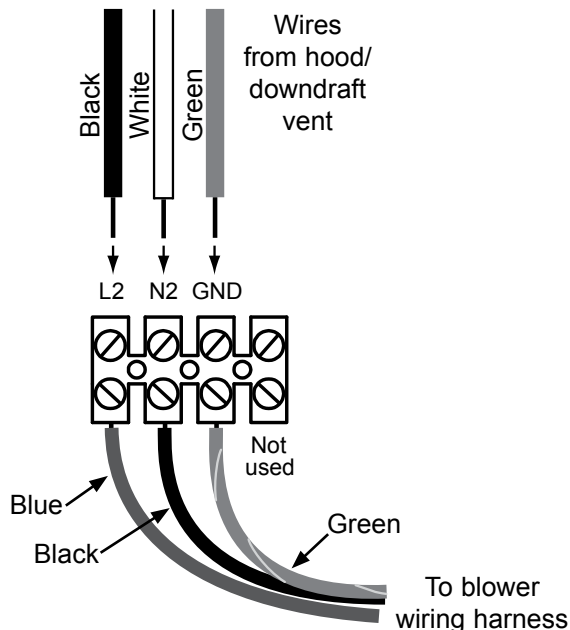

Figure 10: Wiring Diagram
5. Connect the black (L1) wire to the L2 blower power terminal (see **Figure 10**). Tighten the terminal screw firmly into place. **IMPORTANT:** The L2 (hot) terminal on the blower has the BLUE wire from the blower wiring harness connected to it.
6. Connect the white (neutral) wire to the N2 blower power terminal (see **Figure 10**). Tighten the terminal screw firmly into place. **IMPORTANT:** The neutral (N2) terminal on the blower has the BLACK wire from the blower wiring harness connected to it.
7. Connect the green (GND) wire to the GND blower power terminal (see **Figure 10**). Tighten the terminal screw firmly into place.
8. Check the wires from the blower wiring harness to make sure that they are firmly attached to the terminal according to **Figure 10**. Reconnect any wires that are loose. Make sure all terminal screws are tight.